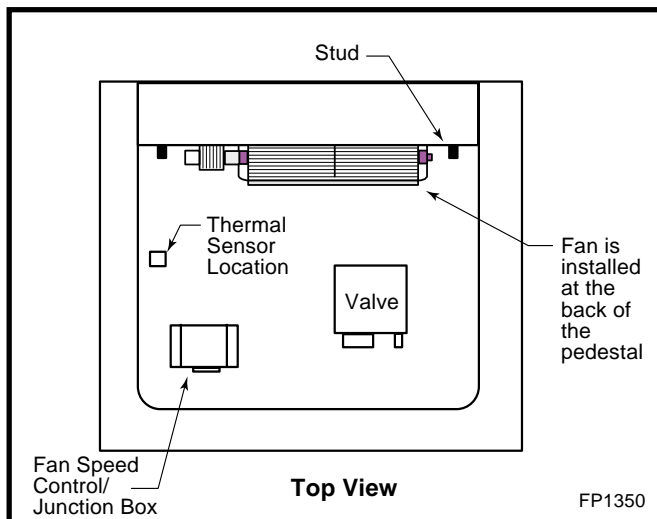

Fig. 43 FK24 placement.
2. Install the fan through the opening at the back of the pedestal, with the outlet pointed up and the fan mounting bracket facing the back of the fireplace. (Fig. 43) The fan mounts over two studs which hold the fan just below the firebox floor. Hold the fan in place with the two nuts provided.